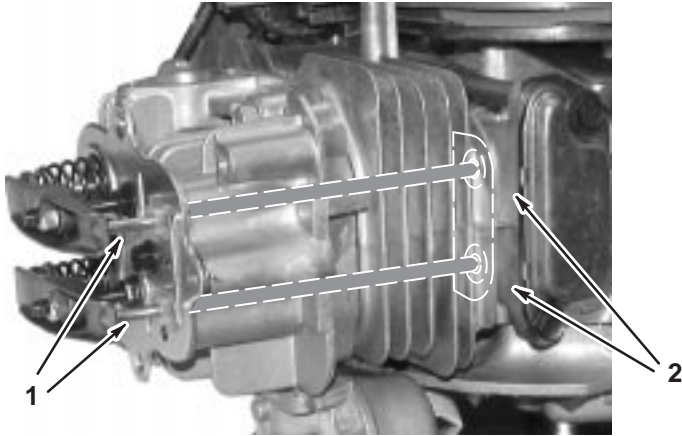

Fig. 59 – Installing Push Rods
2. Install push rods through push rod guide making sure push rods are in valve tappets, Fig. 59.
1. Install push rods through push rod guide making sure push rods are in valve tappets, Fig. 59.
5. Rotate crankshaft at least two (2) revolutions to be sure push rods operate rocker arms.